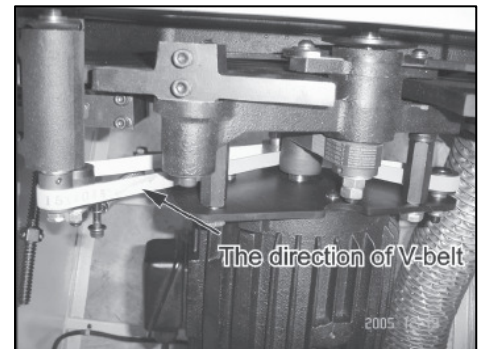

Fig. 53
4. If a gap exists at either the top or bottom of the square, loosen the 90° tilt stop hex nut. (Fig. 53)